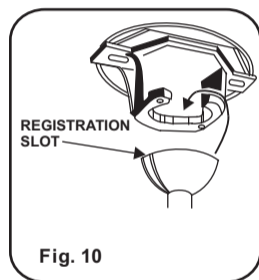

Fig. 10
**Step 7.** Lift the Motor Assembly and place the Hanger Ball into the Hanger Bracket. Rotate the Motor Assembly as needed until the check groove from the Hanger Ball rests firmly over the registration tab from the Hanger Bracket. Motor Assembly should not rotate if this is done correctly. (Fig. 10)